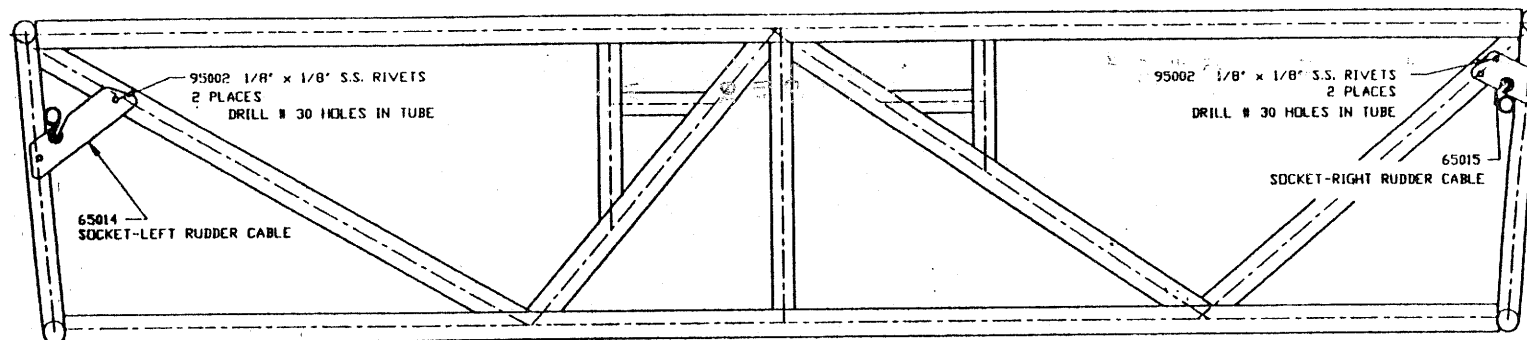

FIGURE 5
STEP (34): Fasten the #65013 Retract Cable Socket and the #62705 Control Lever Hook in place on the front doorpost with 2ea 6R x 3/8" PK screws. See Fig. 5. Attach the #62001 Control Lever Bracket with 1/8" rivets. Assemble and mount the #65012 Lever as shown in Fig. 5. With the control lever in the "down" position, the water rudder should just contact the down stop. With the lever in the "up" position, the water rudder should come just up to the stop. The tubular rubber stop on the cockpit end of the retract cable should prevent the lever from hitting the cable bracket.